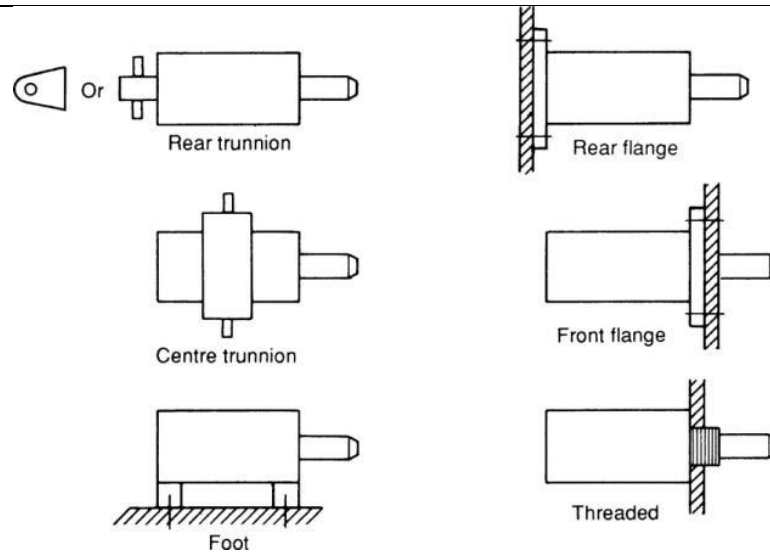

Figure 2. Methods of cylinder mounting
- b. What are the various types of hydraulic cylinder mountings? Brief them with a neat sketch. Cylinder mounting is determined by the application. Two basic types are shown in Figure. The clamp requires a simple fixed mounting. The pusher of requires a cylinder mount which can pivot. Figure 2 shows various mounting methods using these two basic types. The effects of side loads should be considered on non-centreline mountings such as the foot mount. Swivel mounting obviously requires flexible pipes.